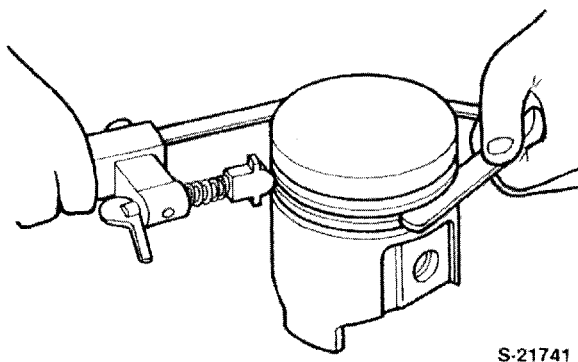

Figure 54
1. Using a ring groove cleaner, remove the carbon deposits from the ring grooves. Be careful to avoid cutting any metal from either the side or the bottom of the grooves, Figure 54.